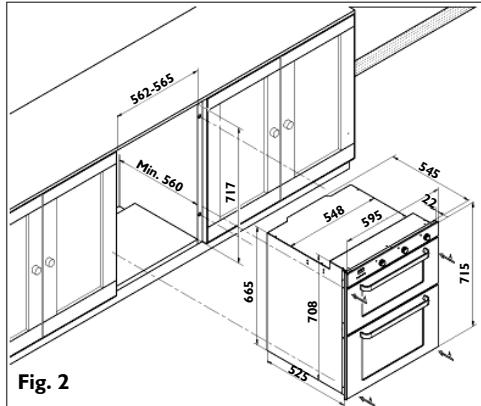
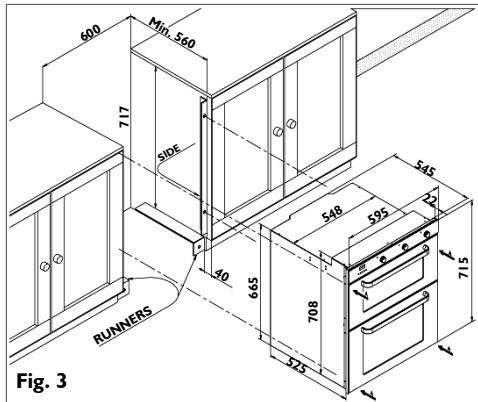

Fig. 2
Fig. 3
- Between two side panels of two distinct cabinet units without the aid of a support shelf, by fitting four support steel brackets provided with the product. (fig. 3).
Note: In both of the above cases you must measure 717 mm from the underside of the worktop and mark the correct position of the lower support brackets before fixing them to the sides. With reference to (fig. 3), ensure the side support brackets are positioned 40 mm from the front of the cabinet door exterior surface, as illustrated, before securing them to the cabinet sides. If necessary, this product can be installed in a housing unit (fig. 2). The housing unit will not be a standard one but will have to be of a size that can accommodate the full height of the oven - minimum height 717 mm. This housing unit will need to fulfil the ventilation requirements.